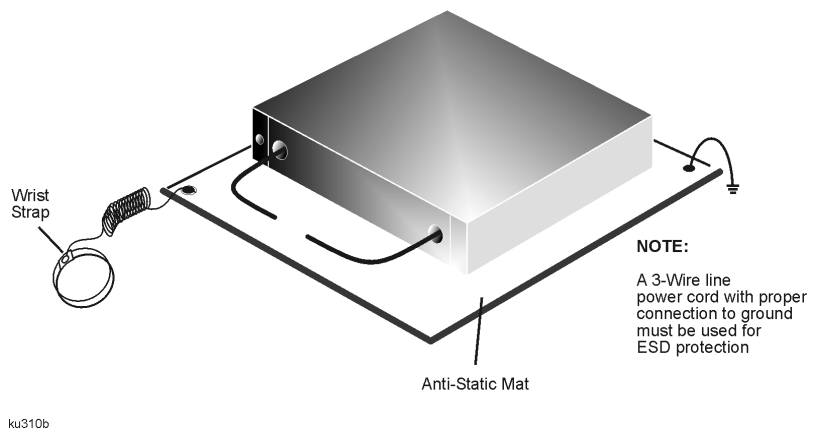

Figure 3 Example of an Antistatic Workstation
- 6 Set up a static safe workstation. Electrostatic discharge (ESD) can damage or destroy components (refer to Figure 3, “Example of an Antistatic Workstation”)